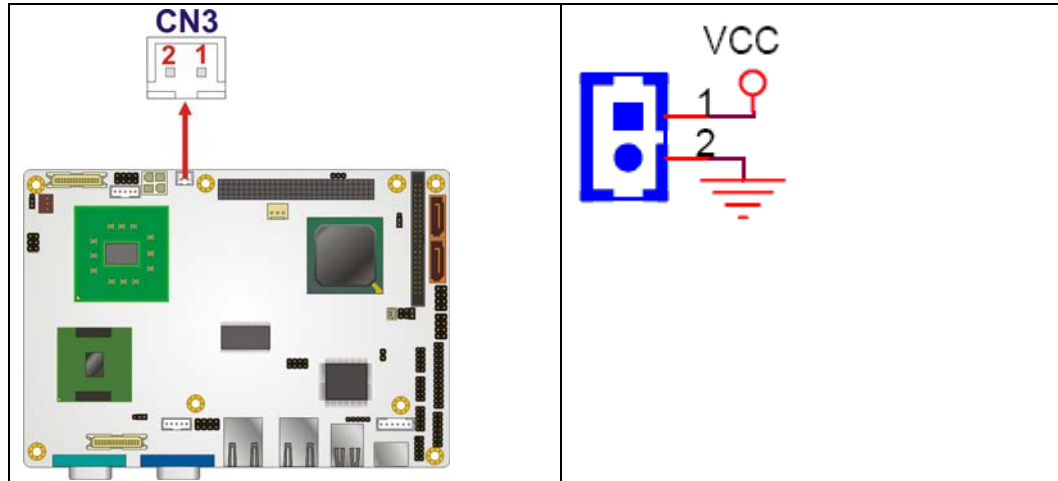

Figure 3-3: 5V Power Connector Pinouts
- CN Location:** See Figure 3-3